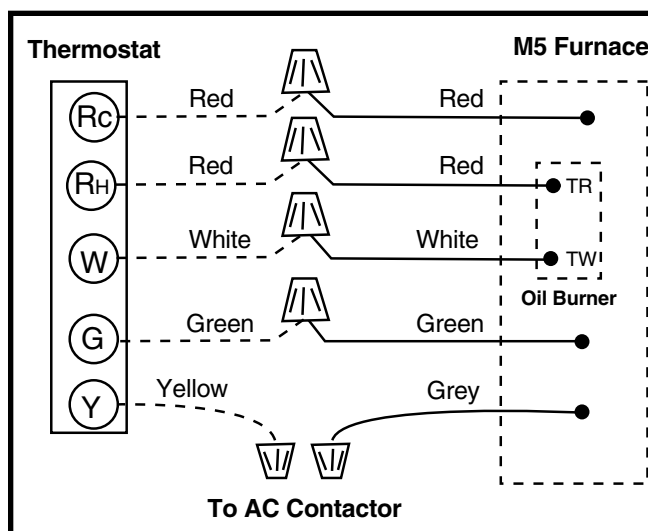

Figure 25. Thermostat Wiring
- Proper line voltage polarity must be maintained in order for the control system to operate correctly. Verify the incoming neutral line is connected to the white wire and the incoming “hot” line is connected to the black wire. The furnace will not operate unless the polarity and ground are properly connected as shown in Figure 25 \(page 14\).
2. Connect the thermostat wires to the furnace low voltage pigtails (dependent on the installation application). See Figure 25 \(page 14\). **NOTE:** To connect an M5 to a thermostat without an **RH & RC** connection, please refer to the wiring diagram and the installation instructions supplied in the kit [P/N 1018453]. Units installed with kit [P/N 1018453] will not use the **RH** connection from the furnace, **RC** on the furnace connects to the thermostat.